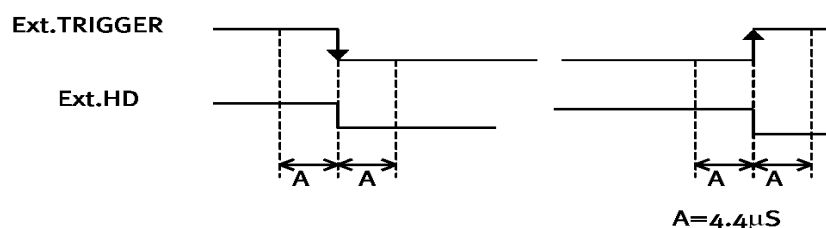

Fig. 11. Trigger/HD timing.
In normal continuous mode and edge pre-select mode the shutter time can be selected from the 8 fixed steps. To avoid jitter, the trigger should be synchronized to HD as shown in fig. 11.
- To avoid 1H jitter it is recommended to synchronize the trigger to HD. (See fig. 11.)